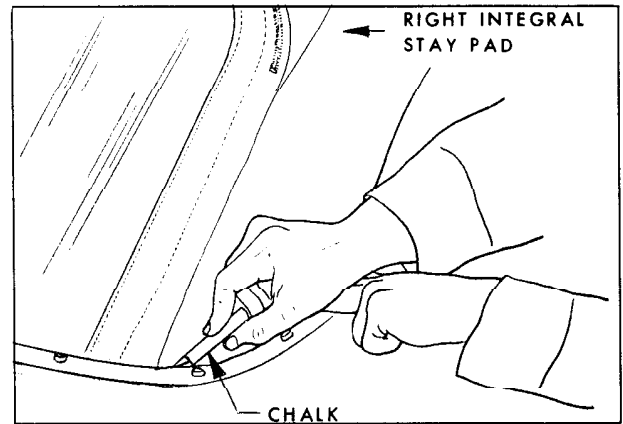

Fig. 17-139 Marking Quarter Stay Pads
- 19. Where required, place reference chalk mark on outer surface of back curtain or quarter stay pads along pinchweld finishing molding. Readjust back curtain assembly and/or stay pads as required. (Fig. 17-139)